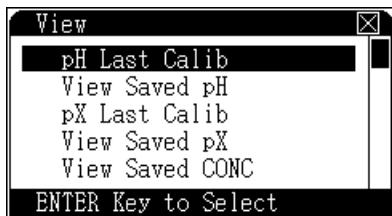

Figure 34 Viewing data
- 2 Navigate to the type of data to view and press [Enter]. See Figure 34.